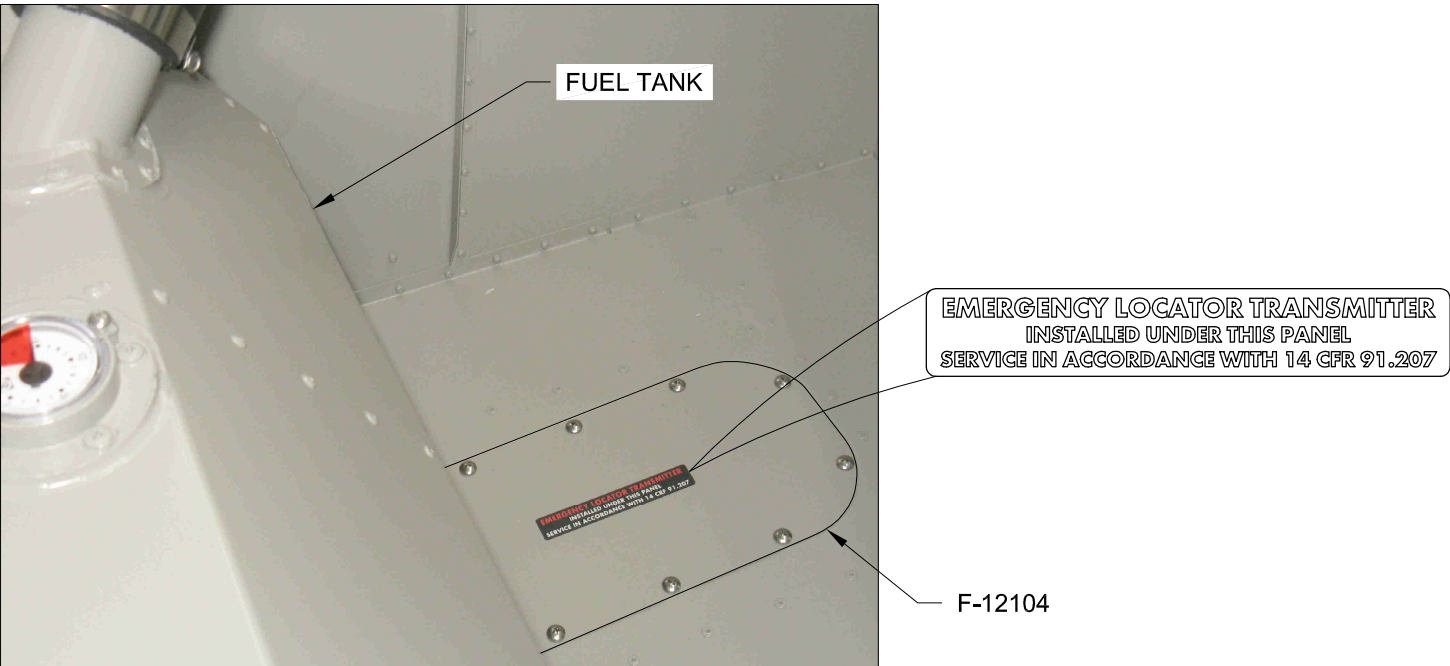

FIGURE 4: ELT LABEL LOCATION
Step 4: Install the F-01200D emergency locator transmitter label on the F-12104 Access Panel as shown in Figure 4.